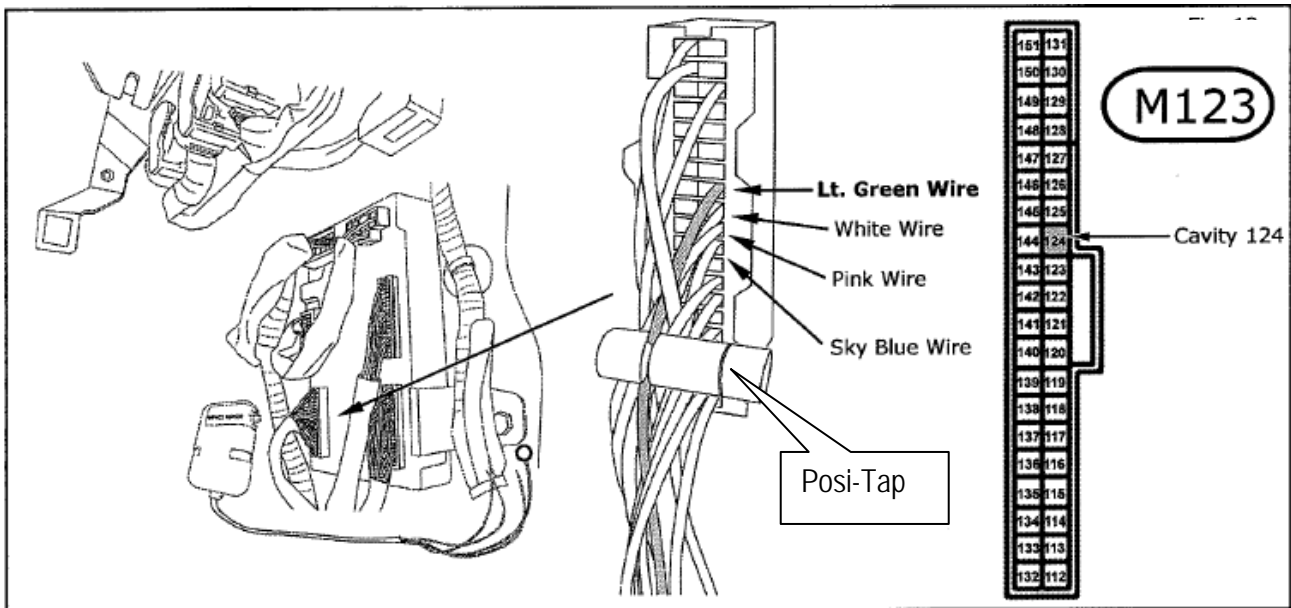

Figure 1
5. Remove / disconnect the impact sensor Brown wire from the Light Green wire in BCM connector 123, cavity 124 (see Figure 1).